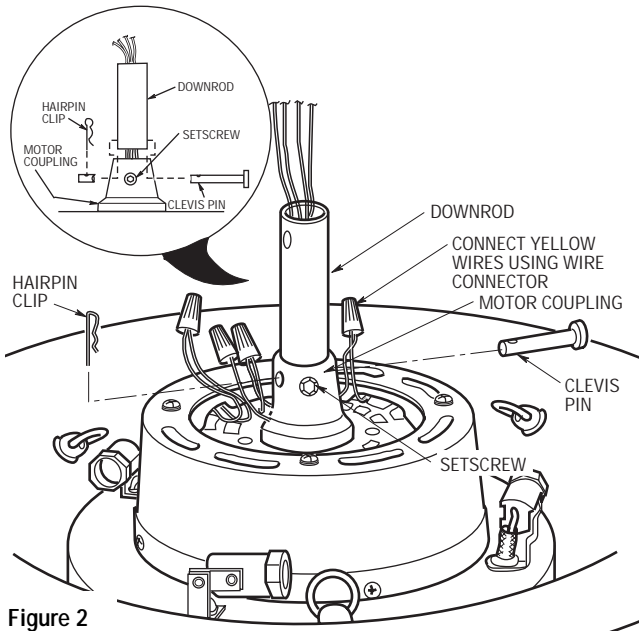

Figure 2
3. Using a wire connector (supplied), connect the yellow upright lead (supplied) to the yellow wire from the motor (Figure 2).
5. Fold the wires from the downrod into the slot in the motor coupling. Then slide the downrod down the wires and seat the downrod in the motor coupling (Figure 2).
6. Align the clevis pin holes in the downrod with the holes in the motor coupling. Install the clevis pin and secure with the hairpin clip (Figure 2). The clevis pin must go through the holes in the motor coupling and the holes in the downrod. Push the straight leg of the hairpin clip through the hole near the end of the clevis pin until the curved portion of the hairpin clip snaps around the clevis pin. The hairpin clip must be properly installed to prevent the clevis pin from working loose.
7. Install the setscrew (supplied) in the motor coupling and tighten using the 5/32" setscrew wrench (supplied) (Figure 2).